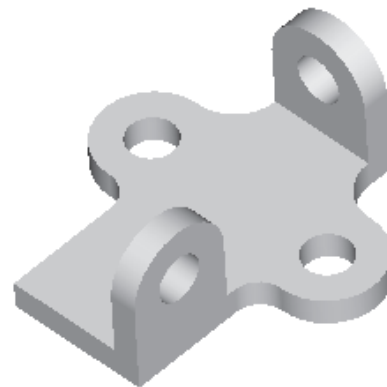

Figure 6-28 The copied third feature with new references
- e. The fourth feature is the same as the third feature and therefore, a mirror copy of it will be created as shown in Figure 6-28.
10. Choose **Okay** from the **DIRECTION** submenu and then choose **Done** from the **GRP PLACE** menu. The feature is copied to the required location on the model as shown in Figure 6-28.